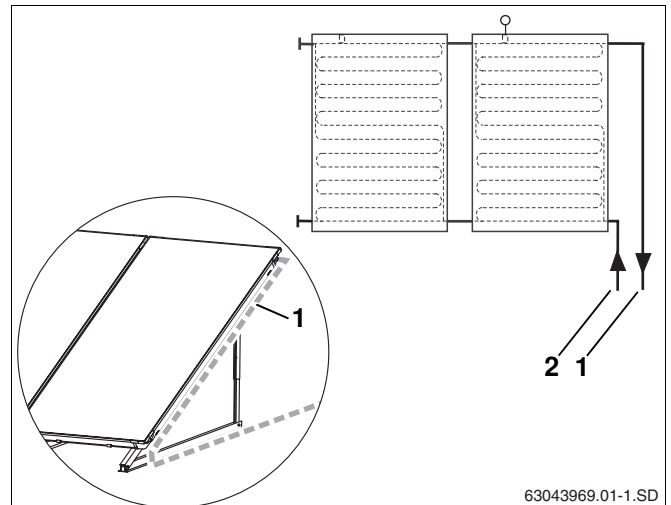

Fig. 55 Feeding header pipes to the collector array
- Feed the on-site flow line (Fig. 55, **Item 1**) alongside the collector, rather than vertically downwards.